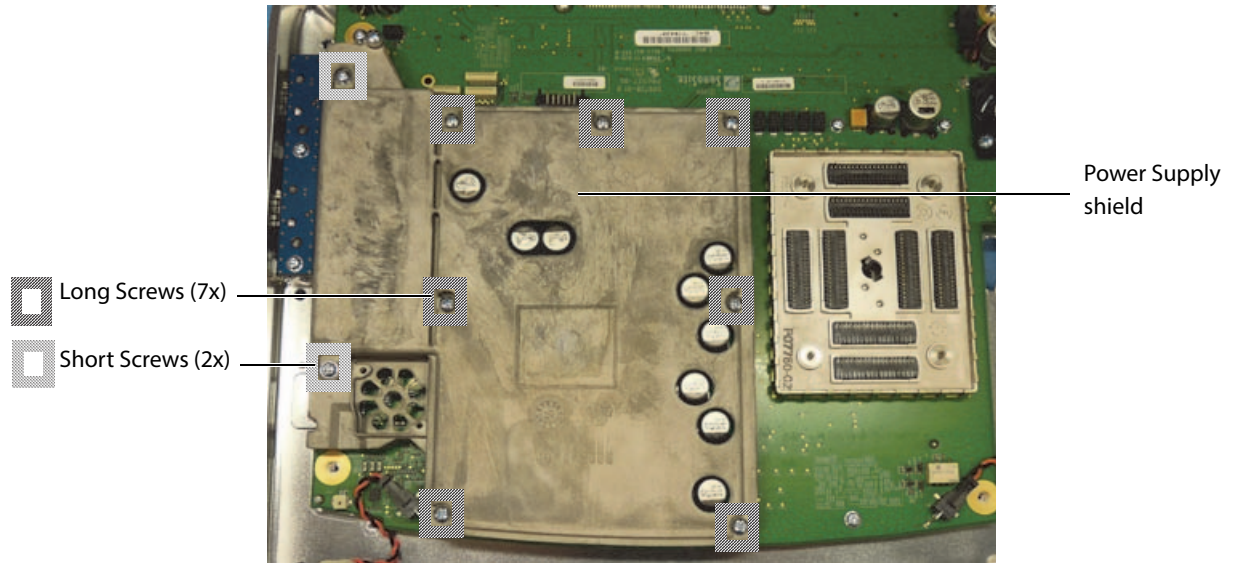

Figure 6.11 Power Supply Shield
- 1 Remove the 7 long screws and 2 short screws holding the Power Supply Shield. Please note the location of the 2 short screws. See Figure 6.11.
- 3 Install the 7 long screws and 2 short screws holding the Power Supply Shield. Please note the location of the 2 short screws. See Figure 6.11.